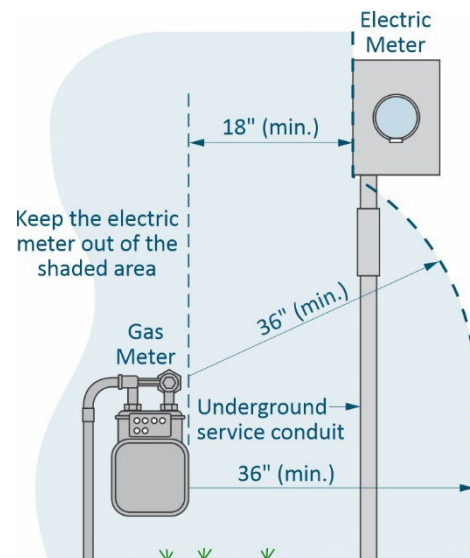

Figure 2 Separation Between Gas and Electric
**DO keep proper meter separations.** The electric and gas meters must be separated as shown in Figure 2.